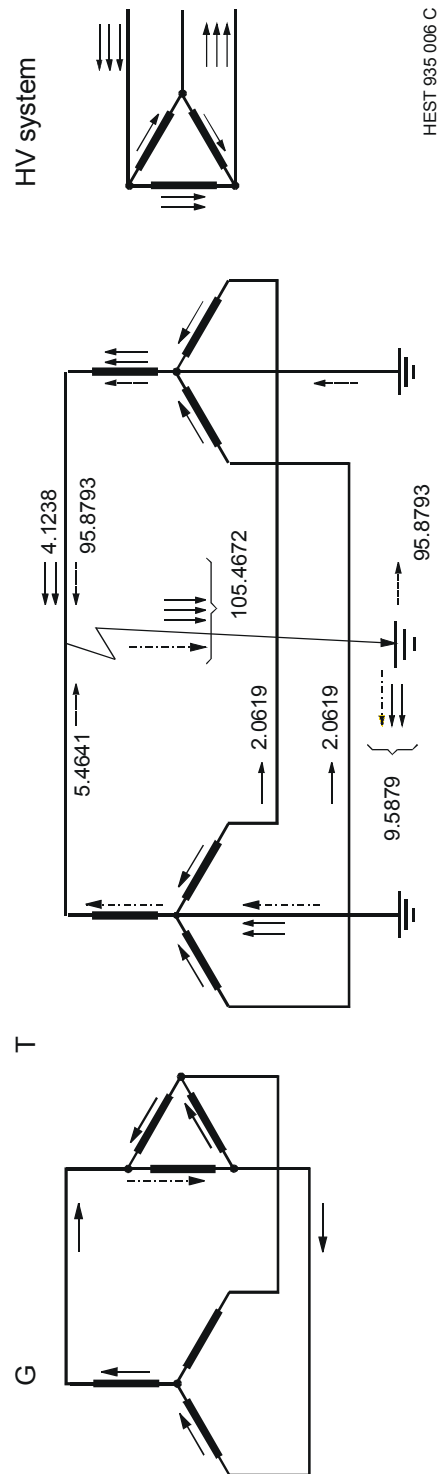

Fig. 4.2
- b) in addition to a) by the HV power system when the HV circuit-breaker is closed (see Fig. 4.2).
As a result of the current distribution for a through-fault, the star-point c.t. conducts the highest current in the case of a solidly grounded transformer as shown in Fig. 4.2. Apart from the burden, the high fault level results in a high c.t. flux and the probability of it saturating is then also high.